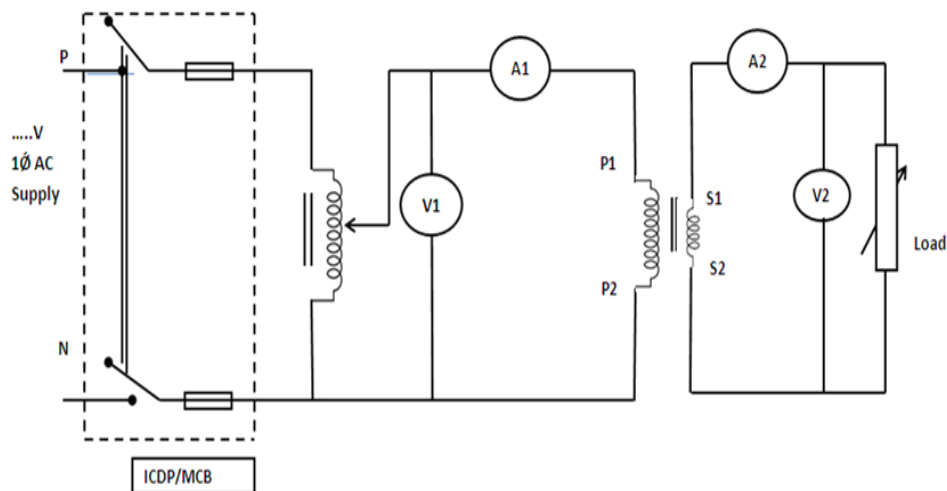

Fig.1: Step-down Mode
2. Make the connections as per circuit diagram shown in Fig.1